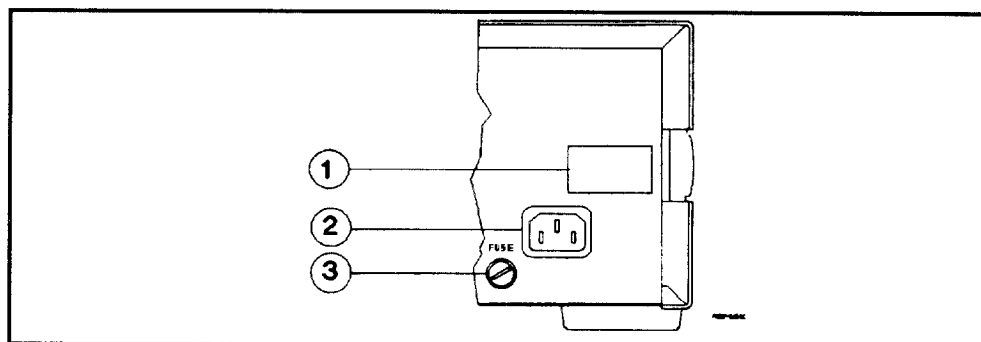

Figure 2-1. Series 664xA and 665xA Power Connection
The supplied cord connects to the power receptacle on the rear panel (②, Figure 2-1).
- You can operate your supply from a nominal 100 V, 120 V, 220 V, 230 V, or 240 V single-phase ac power source as indicated on the rear panel line **Rating** label ①.
- The line fuse is located in a fuseholder on the rear panel ③. The rear panel label ① shows the fuse value used in the power supply and Table 1-6 identifies the replacement fuse.
- b. **Series 664xA/665xA** - Use a screwdriver to remove the line fuse from the fuseholder (3, Figure 2-1). Verify that the fuse is as specified on the label. Replace the fuse.